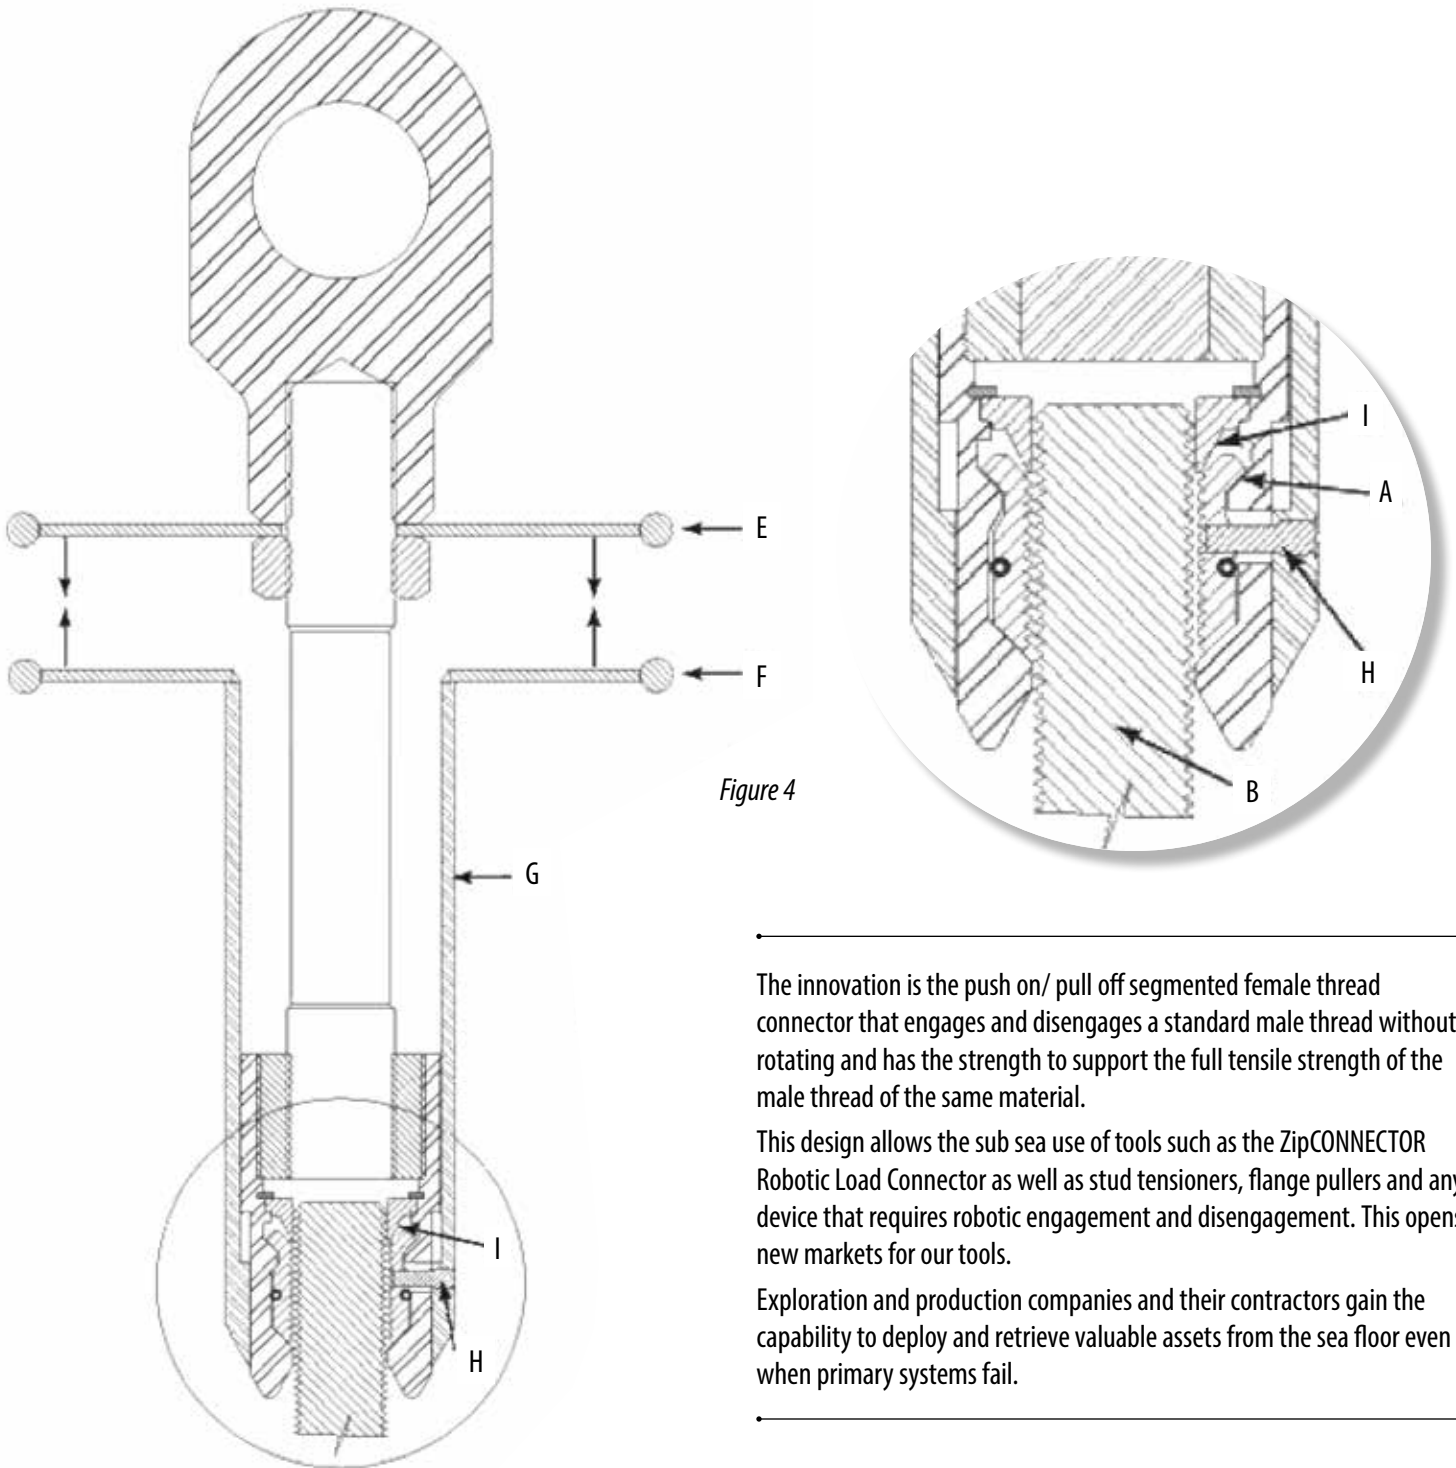

Figure 4
**Figure 4** shows the ZipCONNECTOR Robotic Load Connector in the open position. Plates (E) & (F) are squeezed toward each other, lifting the outer housing (G) and causing the pins (H) to lift the segments (A) into contact with the taper on the top cap (I). This motion opens the segments (A) and allows disengagement from the threaded rod (B). The disengagement cannot happen unless the load has been set down and slack put in the line.